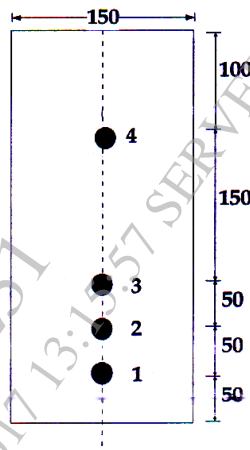

Fig. 1
- b) A pretensioned beam has cross section as shown in the Fig.1. The beam has 4 cables each having 5 wires of 5 mm diameter carrying an initial stress of 1100 MPa. All wires are straight and run parallel to centroidal axis of the beam having ultimate strength equal to 1650 MPa. Determine the loss of prestress due to elastic shortening and normal relaxation of steel. Take modular ratio as 7.5. [6]